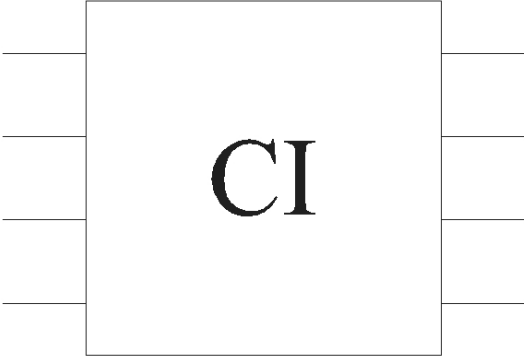

Figure 5-15. Integrated circuit (CI).
Integrated circuits (IC), shown in figure 5.15, contain many components (transistors, diodes, resistors, capacitors, etc.) placed